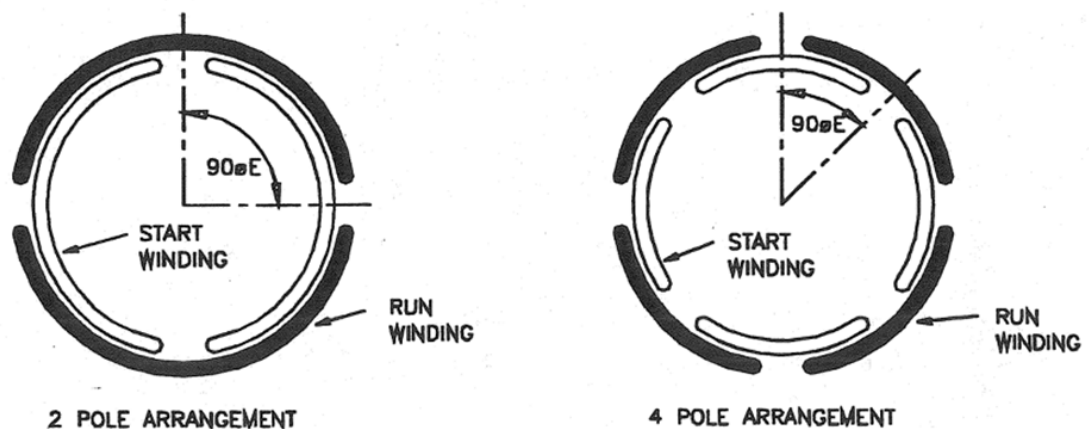

Figure 3 - Position of the start and run windings
6. There are two completely separate groups of coils - one group is known as the RUN winding and the other is known as the START (or auxiliary) winding, and the number of coils in each group must be the same. The number of gangs of coils connected in series for each group determines the number of magnetic poles in the stator. The physical position of the gangs of coils in the start and run windings in a 4 pole split-phase motor are shown in Figure 3.